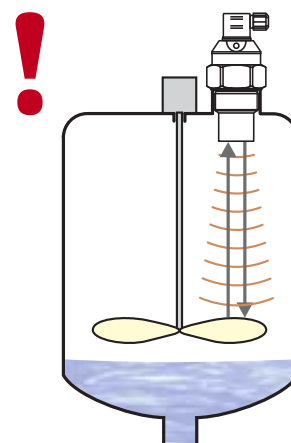

Fig. 13: False reflection caused by mixer blade
- The level meter should not be installed at places where ultrasonic signal **false reflections** caused by stirrer blades might occur (Fig. 13).